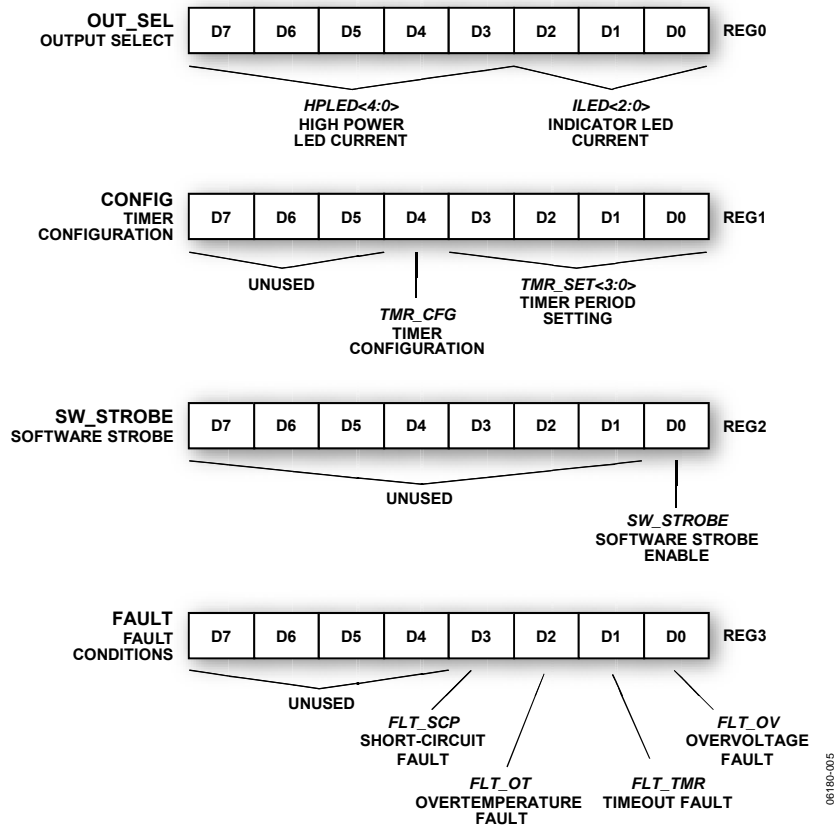

Figure 28. I²C Register Assignments
The register definitions are shown in Figure 28. The lowest bit number (0) represents the least significant bit, and the highest bit number (7) represents the most significant bit.